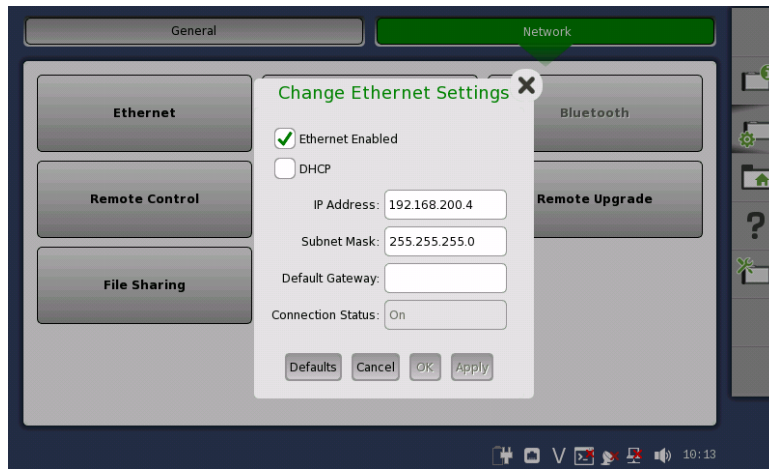

Figure 1.13: IP Address on the instrument
4. In the instrument GUI, find the instrument's **IP Address** information, see Figure 1.13. Then type it in PuTTY, see Figure 1.14.